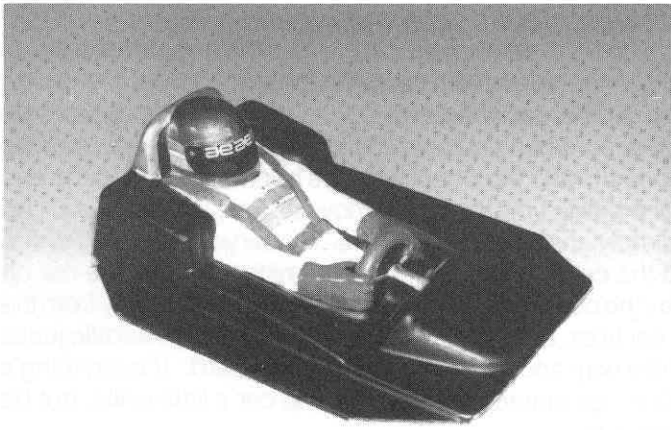

Fig. 201
□ **Fig. 201** The driver can be painted to look quite life-like. If you paint the helmet and visor on the inside, they will have a glossy appearance. Then if you paint the rest on the outside, it will be very life-like. You can use the small brush on paint bottles available in hobby stores. The driver should be trimmed as shown, then it will slide up into the body, and 2 pieces of tape will hold it in place.